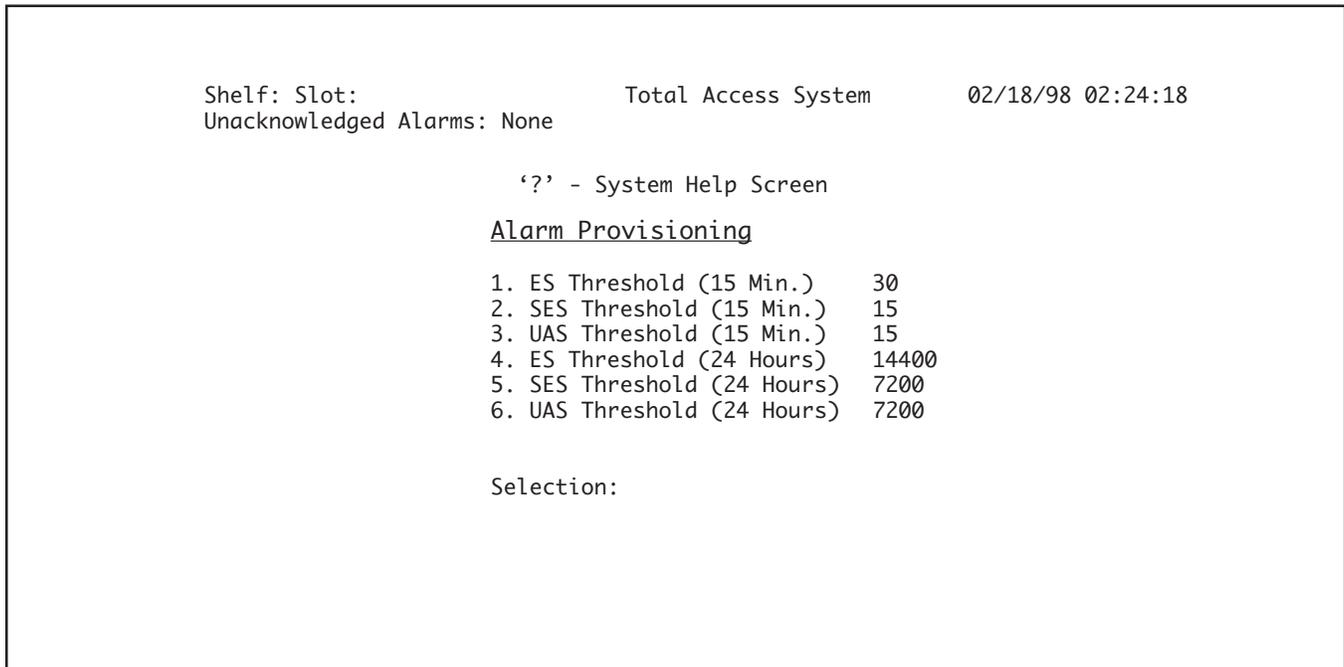

Figure 21. Alarm Provisioning Screen
2. Type “2” and press Enter to select Alarm Provisioning. The Alarm Provisioning Screen (Figure 21) will appear.